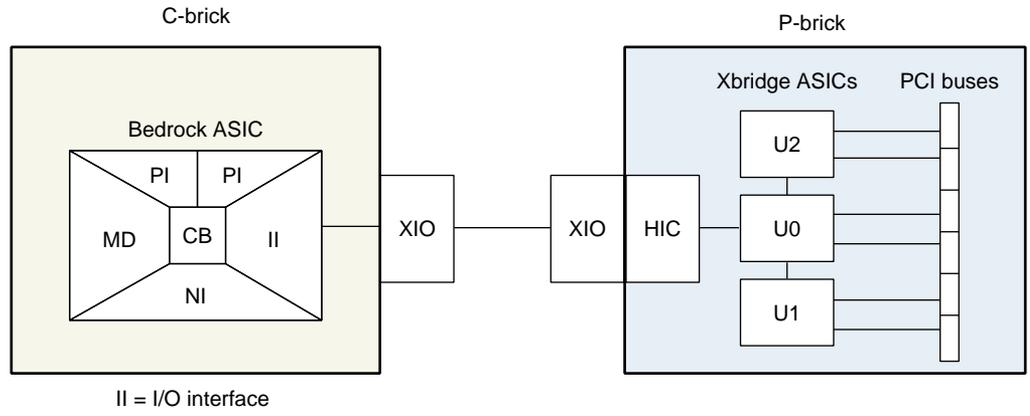
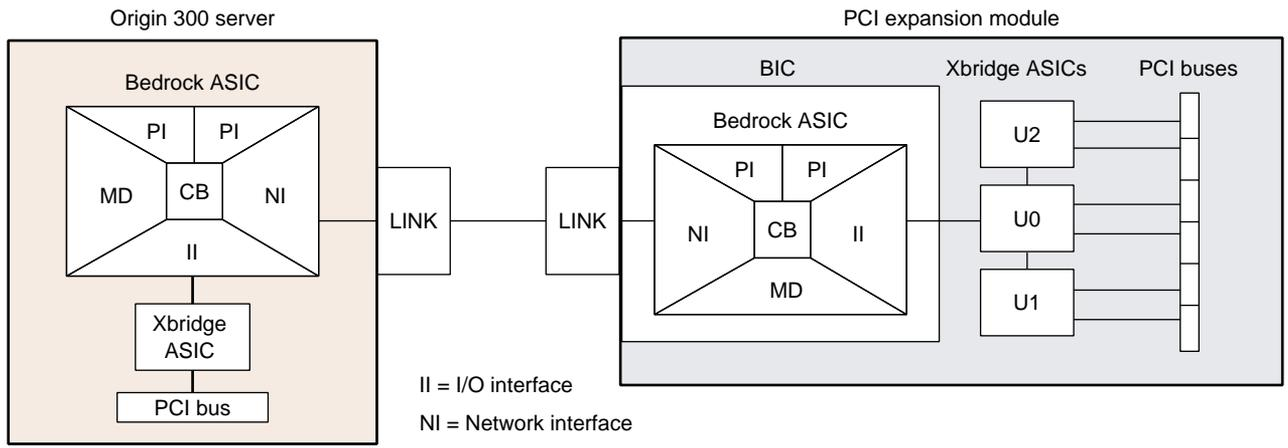

Figure 3-2 P-Brick Block Diagram
Figure 3-3 PCI Expansion Module Block Diagram
The Origin 300 server cannot connect to a P-brick because the P-brick requires a connection to the I/O interface (II) of a Bedrock ASIC (refer to Figure 3-2). The I/O interface of the Origin 300 server's Bedrock ASIC connects to an internal Xbridge ASIC (refer to Figure 3-3).
In order to expand the I/O capabilities of the Origin 300 server, the network interface (NI) of the Origin 300 server's Bedrock ASIC is used (refer again to Figure 3-3). This interface must connect to another NI port; therefore, it must connect to a device that has a Bedrock ASIC. The PCI expansion module has a Bedrock interface card (BIC) that contains a Bedrock ASIC. (The P-brick does not contain a Bedrock ASIC.)